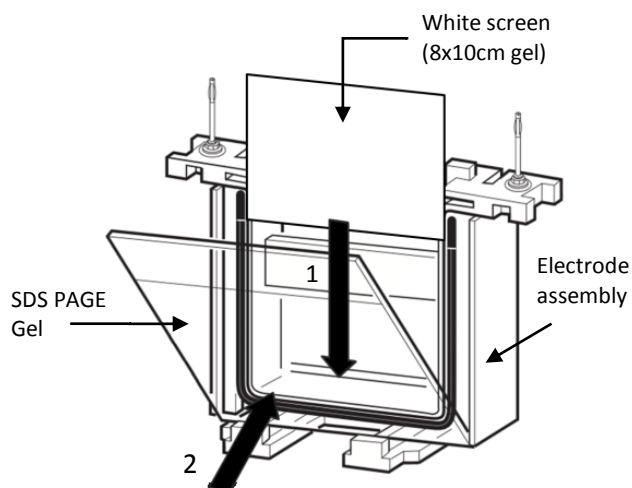

Figure 3. Insertion procedure for the 8x10cm gel white screen into the Bio-Rad mini-PROTEAN tank (image courtesy of Bio-Rad).
Bio-Rad mini-PROTEAN: Place the 8x10cm gel white screen onto the electrode assembly (1), so it sits within the gasket seal. Then lock the gel cassette into place (2) taking care not to disrupt the gasket seal in the process (figure 3).